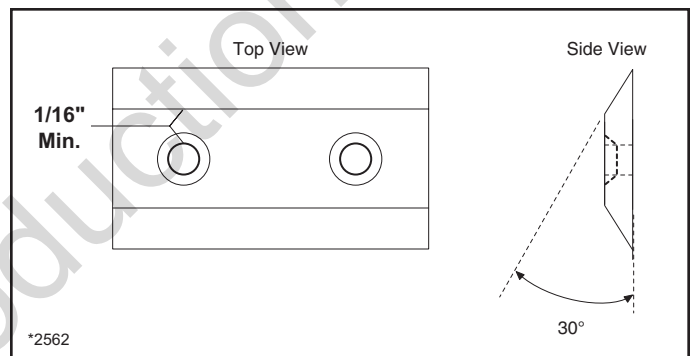

Figure 22. Chipper Knives Minimum Cutting Edge
Chipping knives may be resharpened until the distance between the mounting holes and the top corner of the blade bevel is 1/16" apart. See Figure 22.
- Chipper knives require a 30° bevel on the cutting edge (as shown in Figure 22) for efficient chipping action.